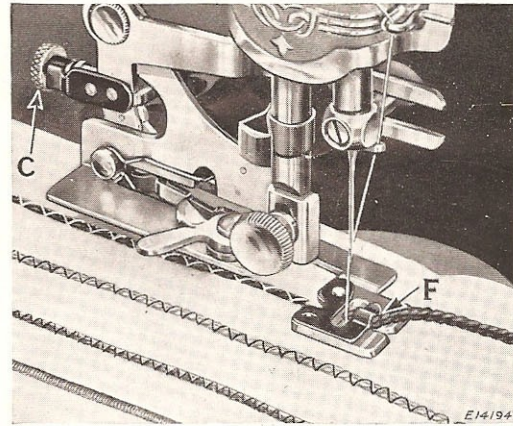

Fig. 7. Cording.
to be applied into the slot (F) in the guide as shown in Fig. 7. Pull the end of the cord back beyond the needle so that it will be caught by the stitches and fed automatically. Any cord may be used which will feed through the slot freely. Two or more small cords of different colors may be used, either parallel or twisted together.